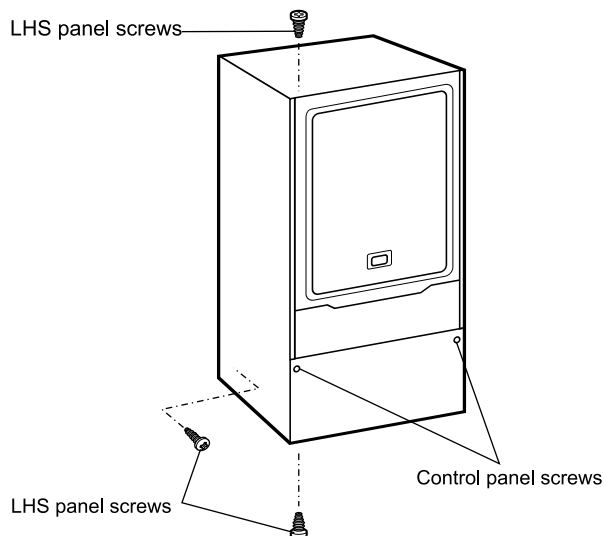

Fig. 3
7.5 BOILER FLOW CONTROL REGULATOR - See Fig. 3
2. Refer to Fig. 3 and disconnect the pipework containing the regulator.
ENSURE THE BOILER IS CONVERTED BEFORE FITTING THE COMBIMAX **See Figs. 3, 4, 5 and 6**
1. Lower the front cover and loosen the two fixing screws securing the control panel as shown in Fig. 3.
2. Remove the left hand side panel of the boiler by removing the top and two bottom screws as shown in Fig. 3.